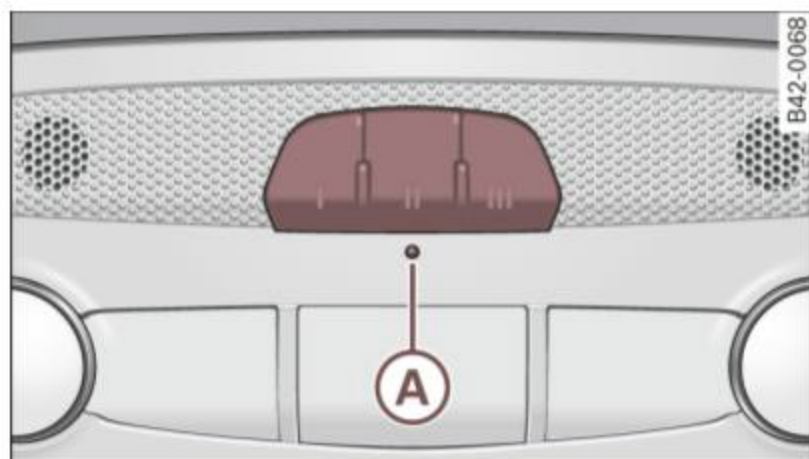

Fig. 81 Overhead console: HomeLink® keypad
4. Press and hold the two outside HomeLink® buttons **I** and **III** for approximately 20 seconds until indicator light **A** ⇒ fig. 81 begins to flash. Then release both buttons. Do not hold the buttons for longer than 30 seconds.
10. Press and hold the trained HomeLink® button and observe the indicator light **A** ⇒ *page 97, fig. 81.*